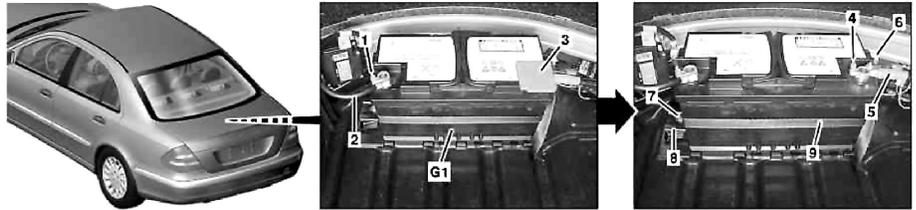

Fig. 1 Primary battery removal
4. Loosen nut (1) and remove ground line (2) from battery (G1), Fig. 1.
6. Remove positive terminal cover (3), Fig. 1.
7. Loosen nut (4) and remove positive line (5) from battery (G1), Fig. 1.
8. Pull off vent hose (6), Fig. 1.
9. Remove bolt (7) and bracket (8), Fig. 1.
10. Loosen retaining strap (9) and take battery (G1) with carrying yoke out of trunk, Fig. 1.
7. Install ground line to battery. Ensure that ground line (2) is seated tightly, otherwise terminal may be damaged, Fig. 1.
9. Install ground line (2) to battery (G1), **Fig. 1**.